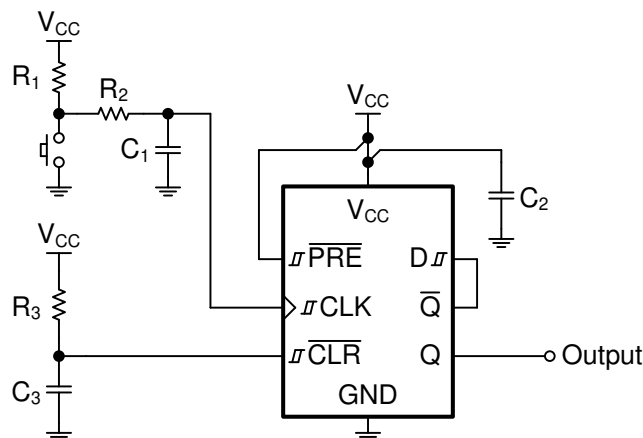

图 12. Device Power Button Circuit
With the SN74HCS74, a power on reset circuit only requires a resistor (R) and capacitor (C) to create a delay. The R and C values create a delay that is approximately $2.2 \times RC$. An additional Schmitt-trigger input device would be required to allow this slow rise if the flip-flop did not have Schmitt-trigger inputs. In this application, it is desired to have the output (Q) in the LOW state at startup, so R_3 and C_3 are connected directly to the \overline{CLR} pin, as shown in 图 12.